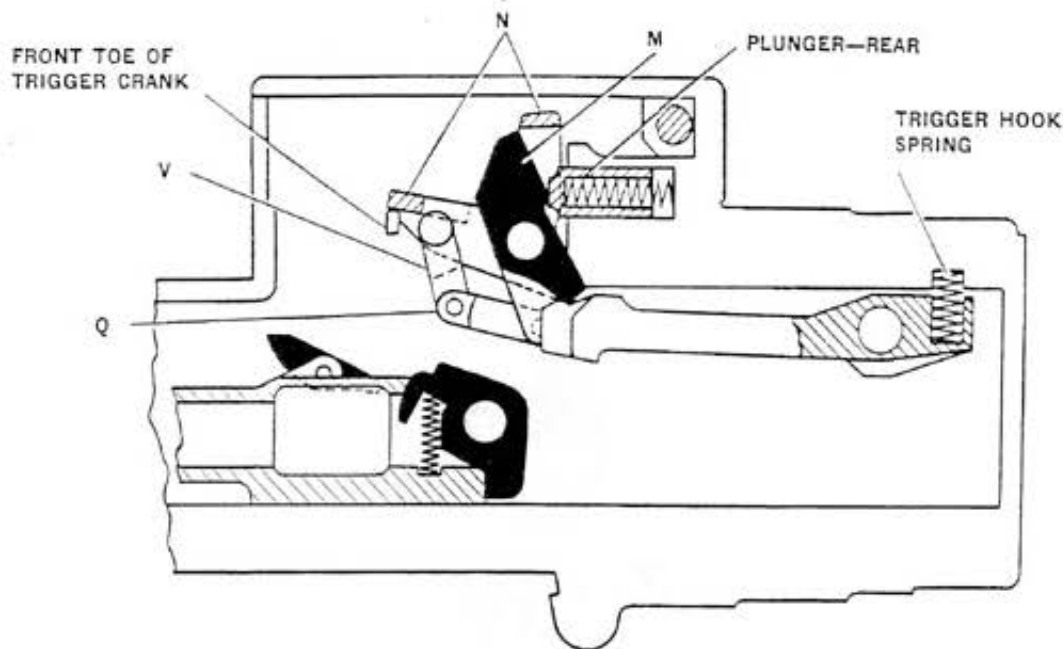
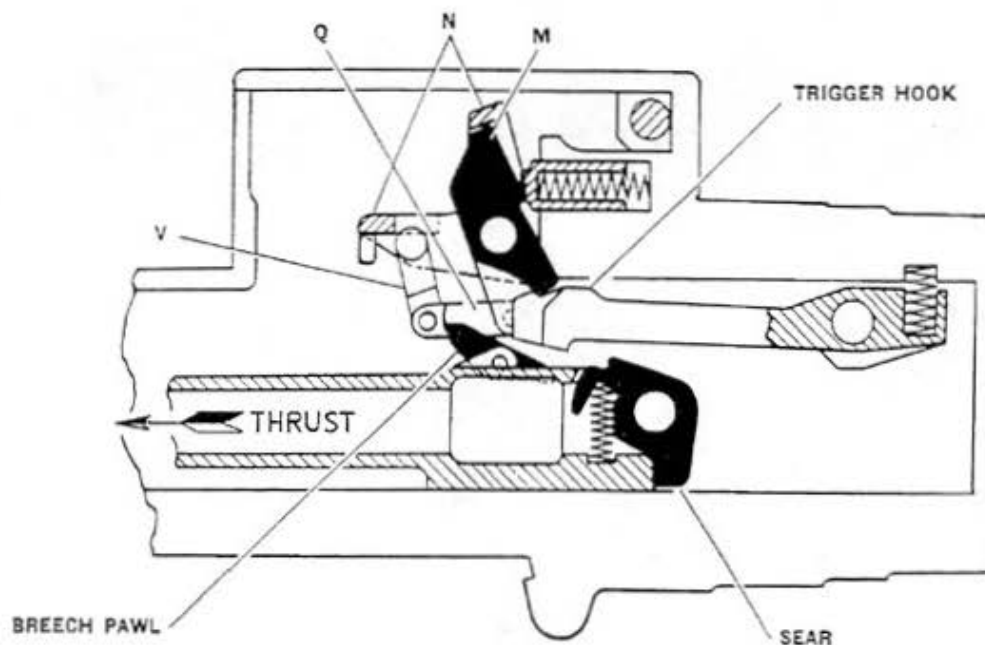

Figure 29—Recoiling mass released to fire the gun
Figure 31—Trigger released, recoiling mass about to start counterrecoil and be held in cocked position by breech pawls engaging parallelogram bottom lever lugs
Pressing the trigger will so move the parallelogram levers, Figure 29, that the trigger hook will be released from the recoil sear and the trigger hook will be kept clear of the path of the recoiling sear as long as the trigger is pressed or until the magazine is empty. The firing is entirely automatic.
The movement of the parallelogram rear lever (M) brings it into line with a recess in the trigger hook, allowing the trigger hook to rotate upward, about its axis and into the position shown in Figure 29 where it is clear of the recoil sear. This disengagement from the recoil sear releases the entire breech block mass so that it counterrecoils, under the push of the barrel spring, and fires the gun.
This action retains the trigger gear in the position shown in Figure 29 as long as the trigger is kept pressed to the rear and there are cartridges in the magazine. In the position illustrated in Figure 29, the lugs on the parallelogram bottom levers (Q) are clear of the recoil and counterrecoil path of the breech pawls. The trigger hook is kept clear of the recoil sear by the trigger hook spring.
Figure 31, and parallelogram bottom right and left levers (Q) into such a position that the lugs on bottom levers (Q) lie in the recoil and counterrecoil path of the breech pawls.
On the breech block mass recoil the breech pawls ride under the bottom levers (Q), Figure 31, and, during the subsequent counterrecoil, engage them again as shown in Figure 31. The parallelogram lever (M) is still in the recess in the trigger hook as shown in Figures 29 and 31, and it is being kept in the recess by its spring. When the lugs on bottom levers (Q) are engaged by the breech pawls the effect is to pull the bot-